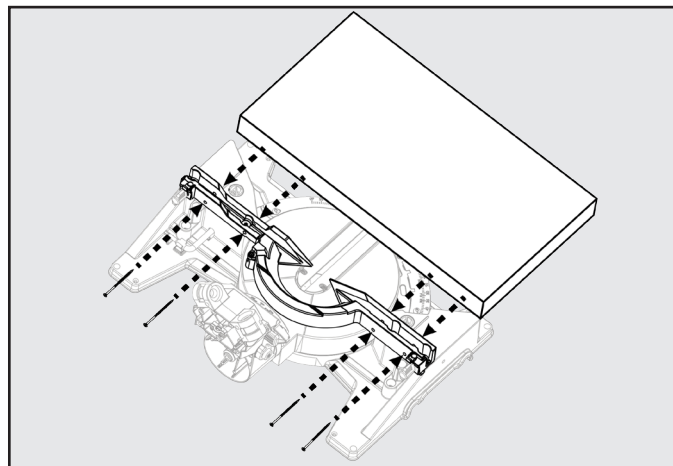

Figure 27
2. Flip the support tabs (C & D) into position. Tabs (D) are on both the left and right sides of the lower (fixed) fence. Tab (C) only exists on the right side of the lower (fixed) fence. These will function as your workpiece backstop. See Figure 27.
3. You will need to add an auxiliary table board to (E) support your large capacity workpiece (F). Place the 2" x 12" auxiliary table board (E) onto the saw table and against the lower (fixed) section of the saw fence. Make sure the board is securely positioned against the lower (fixed) fence.
NOTE: Use wood screws to secure the auxiliary table board (D) to the lower (fixed) fence. See Figure 27.